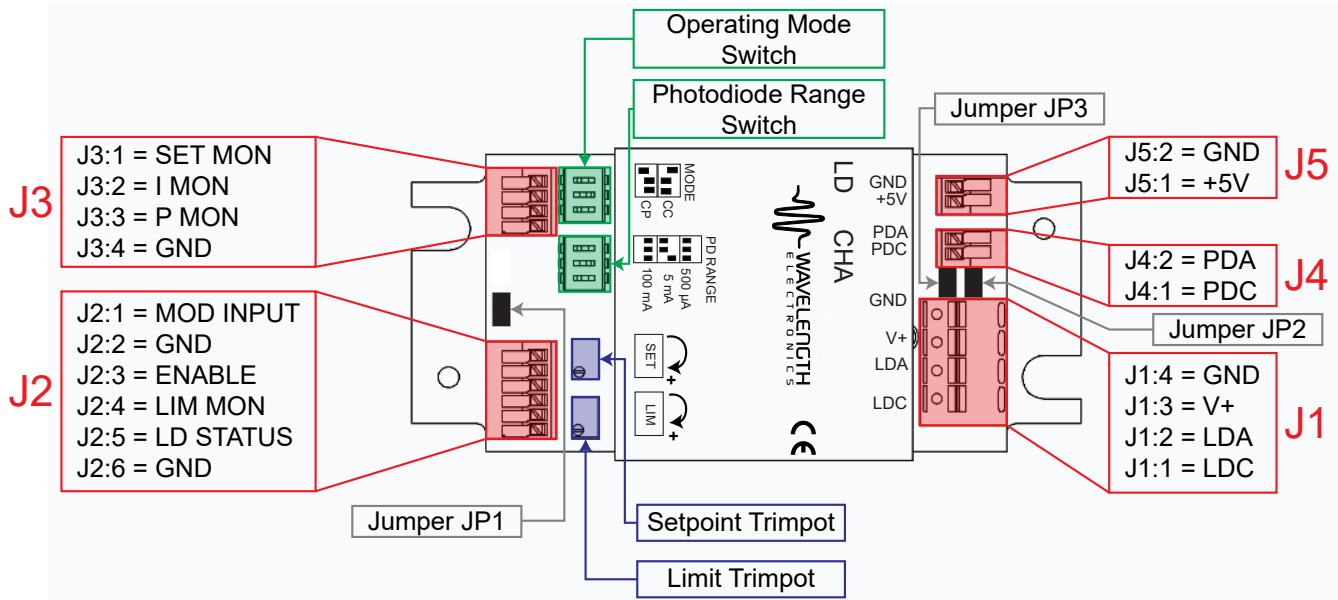

Figure 7. LDxCHA Driver Adjustments and Controls
Onboard controls are on the top of the LDxCHA and must be set according to the operation mode. The controls are illustrated in **Figure 7**.
Choosing between Constant Current (CC) Mode and Constant Power (CP) Mode is done by using the upper set of DIP switches on the LDxCHA (as seen above in **Figure 7**). Constant Power mode operation requires a photodiode.
In Constant Power Mode only, three photodiode feedback current ranges are available on the LDxCHA drivers. Choosing one of these photodiode ranges is done by using the lower set of DIP switches (as seen above in **Figure 7**) Reference the datasheet for your laser diode to find the nominal photodiode current, and set the PD RANGE switch as follows:
There are three jumpers located on the circuit board, labeled JP1, JP2, and JP3 (see also **Figure 7**). They are all two position jumpers, so they are either installed, or uninstalled. The LDxCHA ships with all jumpers installed by the factory. Jumper functionality is described in **Table 3 on page 5**.
Reference **Figure 7** for control locations on the LDxCHA: